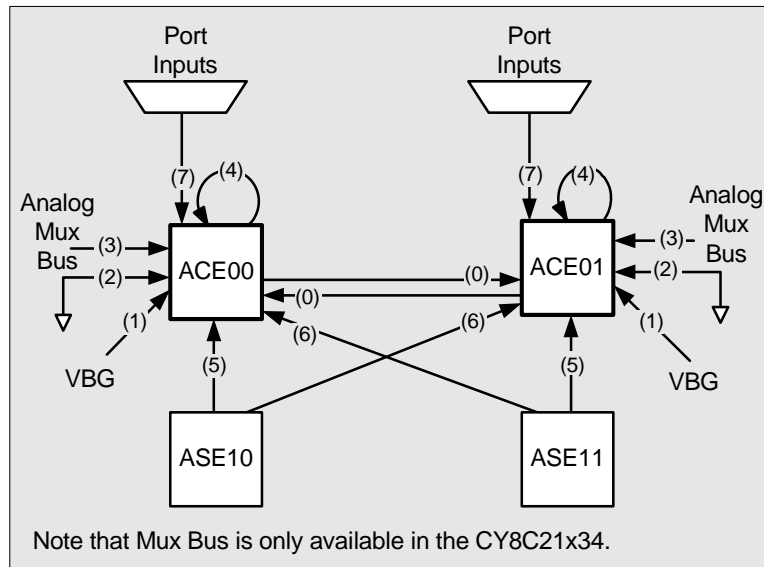

Figure 24-5. NMux Connections for the CY8C21x34, CY8C21x23, CY7C603xx, and CYWUSB6953 PSoC Devices
The NMux is an 8-to-1 mux which determines the source for the inverting (also called negative) input of Continuous Time (CT) PSoC blocks. These blocks are named ACE00 and ACE01 in the CY8C21x34, CY8C21x23, CY7C603xx, and CYWUSB6953 PSoC devices. More details on the CT PSoC blocks are available in this chapter, in the section titled “Continuous Time PSoC Block” on page 441. The NMux connections are described in detail in the ACExxCR1 register on page 192, bits NMux[2:0]. The numbers in Figure 24-5, which are associated with each arrow, are the corresponding NMux select line values for the data in the NMux portion of the register. The call out names in the figure show nets selected for each NMux value.